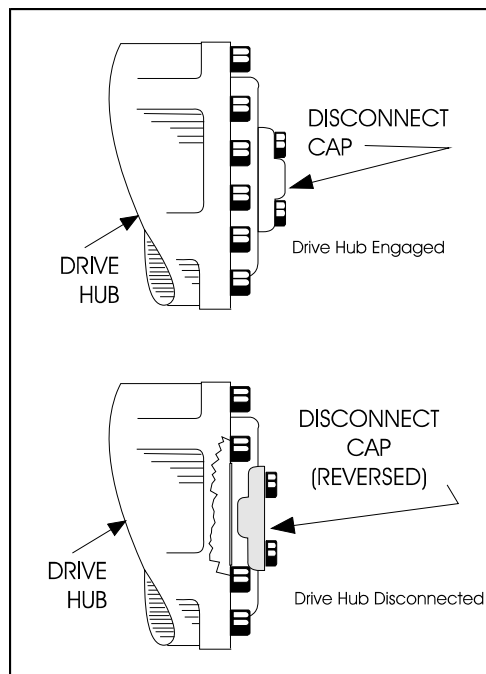

Figure 4-5. Drive Disconnect Hub
2. Engage the mechanical release on both drive hubs by loosening, completely reversing, and tightening the two bolts on each hub. Refer to Figure 4-5., Drive Disconnect Hub